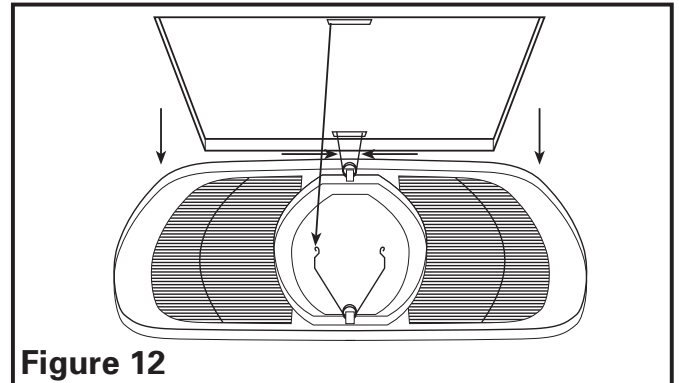

Figure 12
3. **Changing the Light Bulb:** Disconnect power to the unit. Remove grill by pulling downward on grill and squeezing grill springs together to release from housing (**Figure 12**).